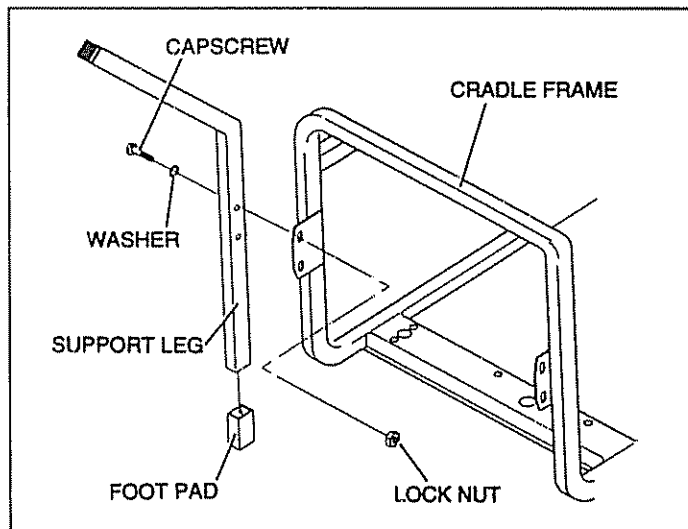

FIG. 2
- Insert foot pad into bottom of each support leg (Fig. 2).
- Using 13mm or 1/2-inch wrench, attach each support leg to base as shown in Fig. 2 with two M8 x 45mm hex head capscrews, M8 washers and M8 flange lock nuts.